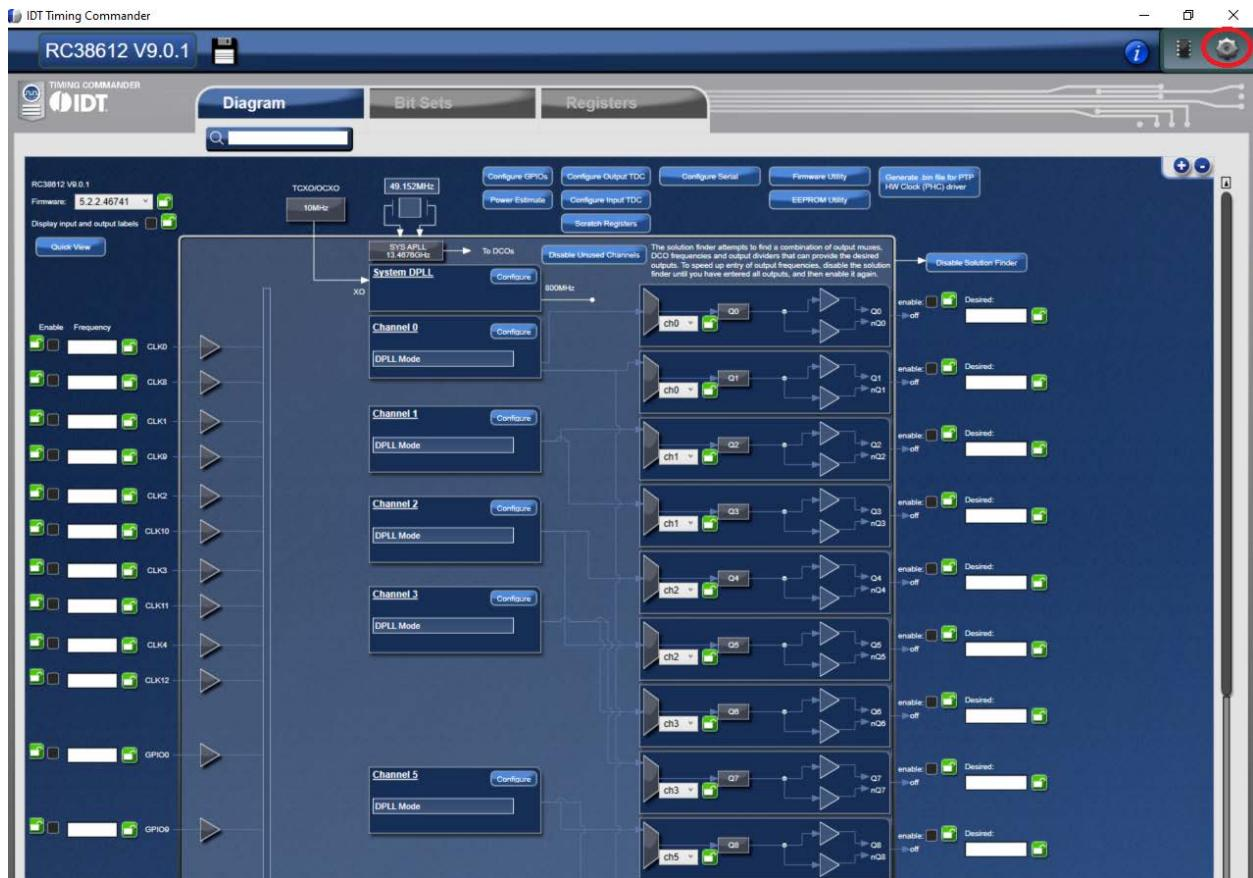
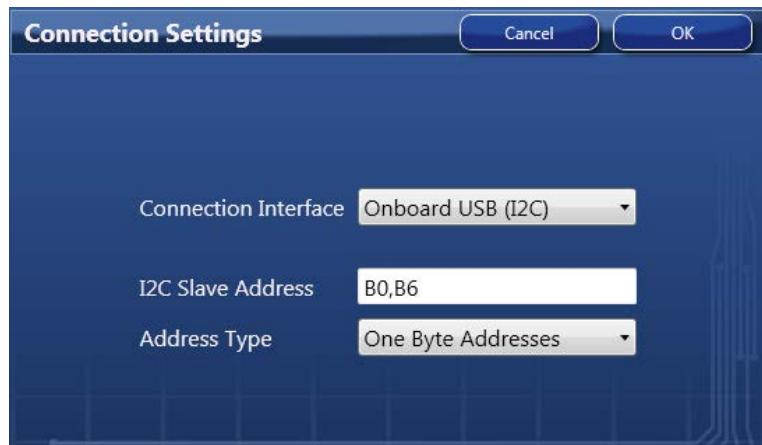

Figure 9. Timing Commander GUI with a Settings File Opened
Figure 10. Setting I2C for Connecting the Board with GUI
By using FTDI dongle, we can connect to a customer board and use the Timing Commander GUI just like working on a ClockMatrix evaluation board. When using the FTDI dongle to connect to a customer board, in Timing Commander “Connection Settings” window, “On-board USB (SPI)” is selected in Connection Interface box (see Figure 10), same as connecting to a Renesas evaluation board.
4. The GUI window with the RC38612 block diagram will open for configurations; or if “Open Settings File” is selected in Step 5 above, you will be prompted to browse and select an existing .tcs file and the personality file. When the configuration file is open, all configured values will be displayed as in Figure 9.
5. In order to connect the board with Timing Commander (PC), click the button (red circle) at the up-right corner of the GUI to set up the communication protocols (see Figure 9). After I2C and one-byte addressing are selected, click OK to close the window (see Figure 10).